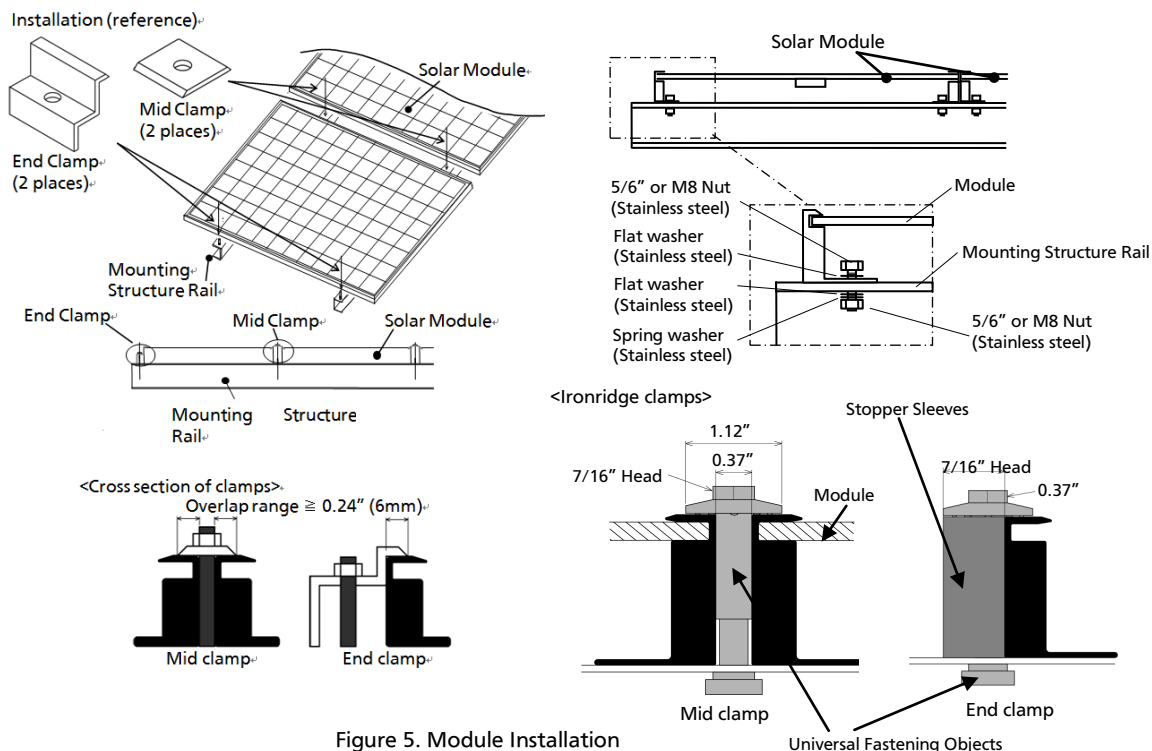

Figure 5. Module Installation
- The modules should be mounted basically at the four (4) quarter points by the means shown in Figure 1, and based on installation methods shown in Figure 5.
- Figure 5 shows using a bolt and nut for mounting.
- Figure 5 shows that a module should be attached on a mount or support structure rail by corrosive-resistant metal clamps.
- The module was tested using IronRidge clamps with the specifications see Figure 5 and below;